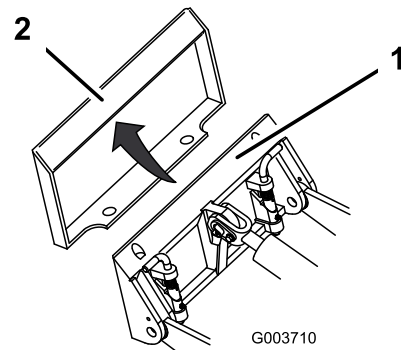

Figure 20
4. Position mount plate into the upper lip of the attachment receiver plate (Figure 20).